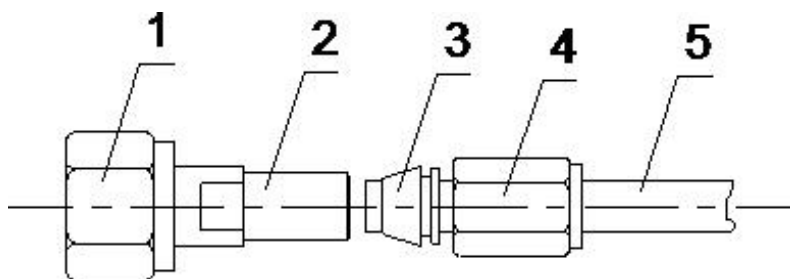

Figure 2-3 Gas path connection schematic diagram
1. The installation of the external gas path is as shown in Figure 2-3;